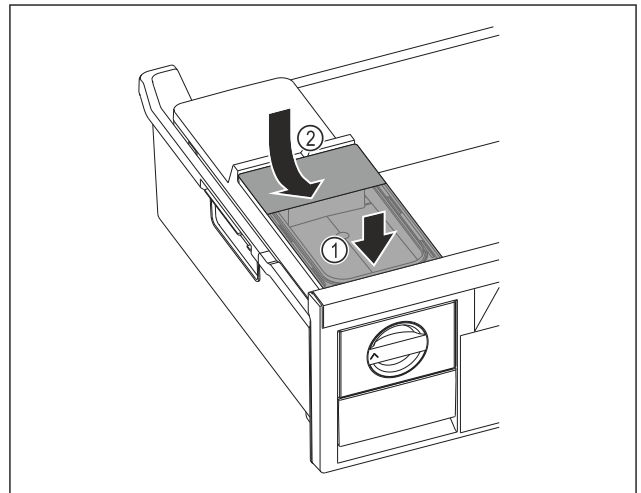

Fig. 130
- Position the water tank at the front. Fig. 130 (1)
- Lower the water tank at the rear. Fig. 130 (2)